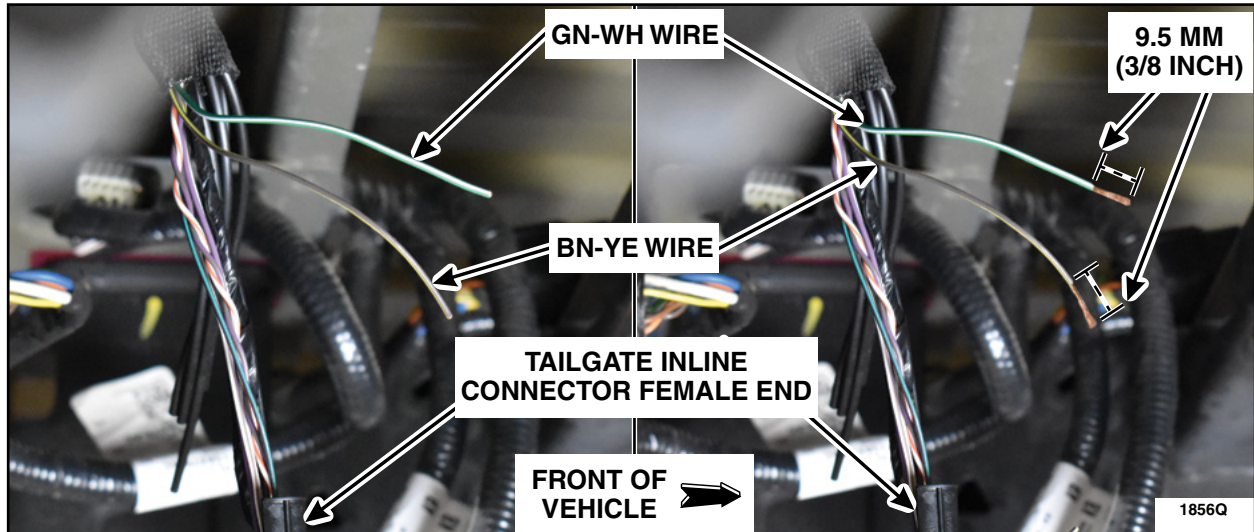

FIGURE 19
22. Strip 9.5 mm (3/8 in) of the GN-WH and BN-YE wire insulation on the female connector harness side. See Figure 19.